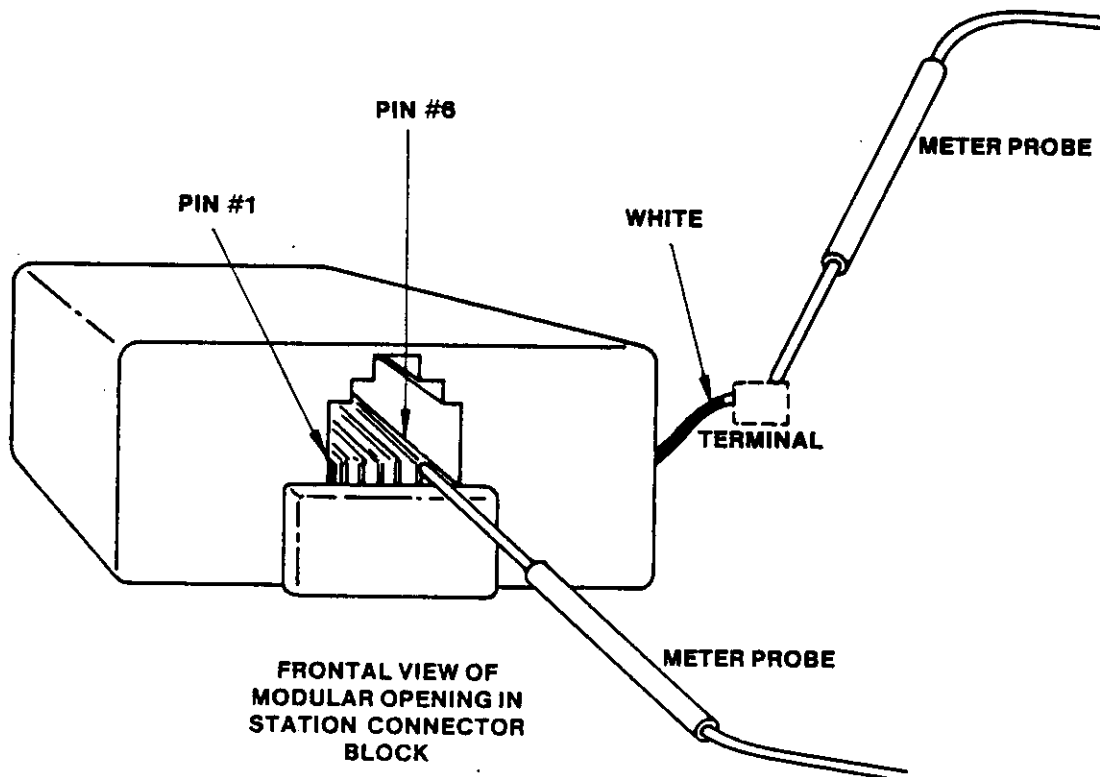

FIGURE 3 — VERIFICATION OF CONNECTOR BLOCK WIRING
2.6.2 Some earlier Northern Telecom models have Blue and White reversed. Earlier Northern Telecom blocks as well as other manufacturer's models should be checked with a meter before a connection is attempted. Which lead represents pin #1 and which pin #6 must be determined before a connection can safely be made see Figure 3.